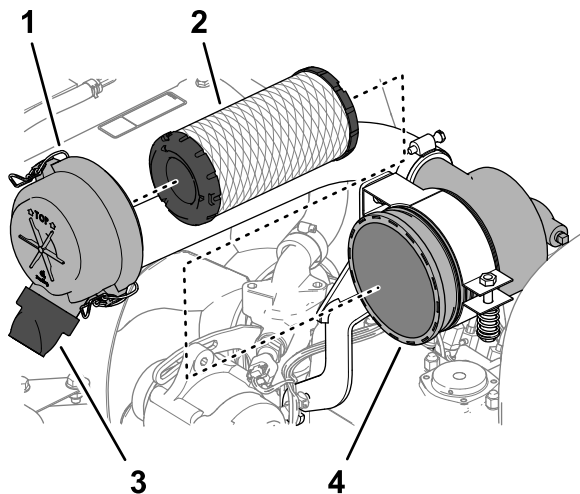

Figure 65
3. Release the latches that secure the air-cleaner cover to the air-cleaner body (Figure 65).
6. Remove the filter element (Figure 65).
7. Remove the rubber outlet valve (Figure 65) from the dirt ejection port of the air-cleaner cover.